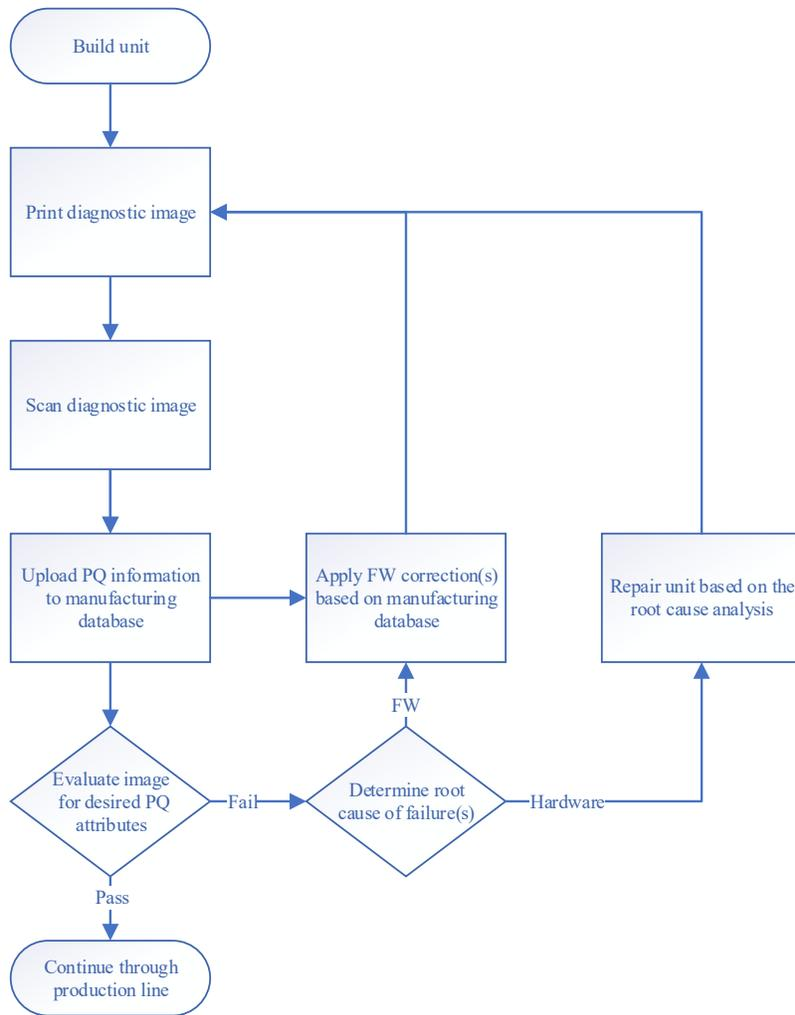

Figure 2: Sample Manufacturing Workflow using Diagnostic Image.
2. Reading in that target with a commercially available scanner and integrating that data into the manufacturing process (Figure 2)